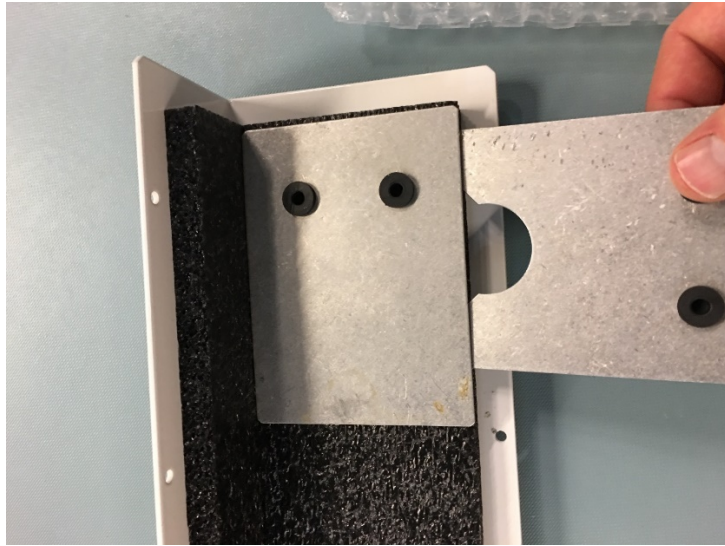

FIGURE J-4. Removal of original pump module inner plate and replacement with new inner plate provided in pump replacement kit (pn 33241)
4. Using the “notched” end of the new inner plate, slowly pry away the original inner plate working around all sides and being careful not to damage the foam backing (FIGURE J-4).